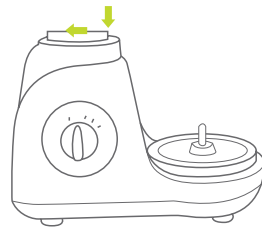

Fig. 1
1. Put the protective cover on the housing, and turn it clockwise until protective cover and the base unit interlock. (Fig. 1)